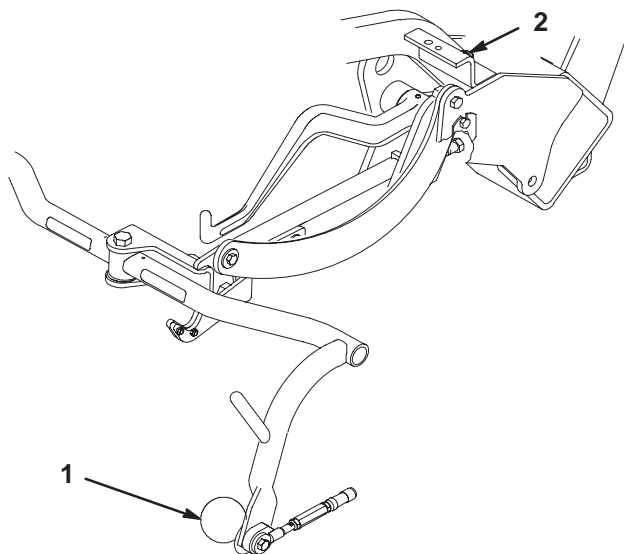

Figure 8
3. If an adjustment is required, loosen the jam nut on the carrier frame stop screw (Fig. 8) and rotate the screw up or down to raise or lower the carrier frame. Tighten the jam nut after adjustment is attained.